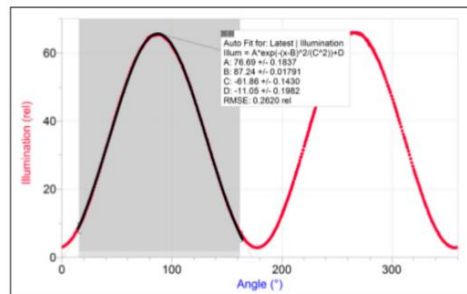

Figure 5. 3 Selection of peak for fit adopted from www.vernier.com/
4. There are several ways to estimate these angles of rotation on LabQuest2. However, we will apply the Gaussian fit method. To achieve this, highlight one peak as shown in Figure 5. 3. From the Analyze menu choose Curve fit. Choose Gaussian. The B coefficient from the fitted curve represents the angle at maximum transmission. This will